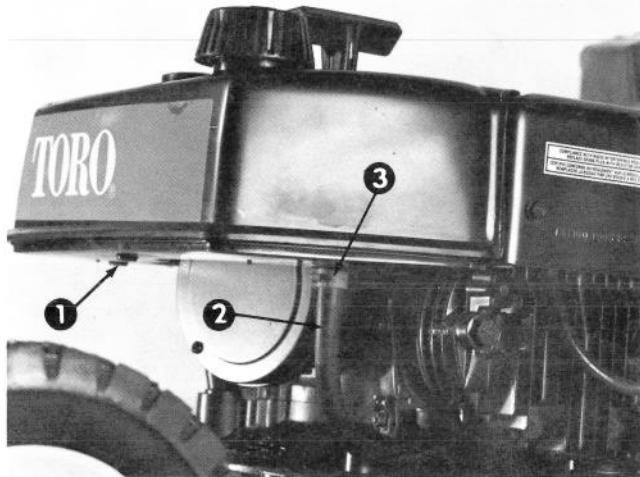

Figure 22
2. Place a clean, shallow drain pan below the fuel tank (Fig. 22).
3. Squeeze ends of clip holding fuel line on fuel tank fitting (Fig. 22). Slide clip down fuel line.